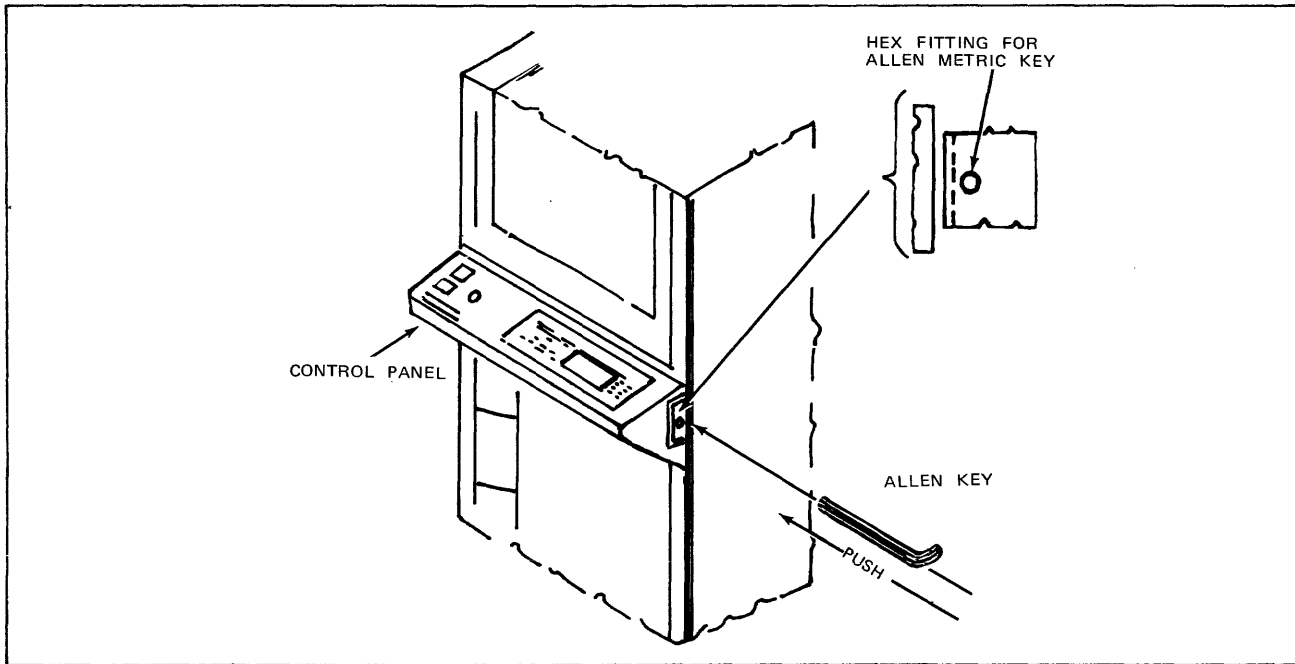

Figure 3-2. Opening Control Panel
2. Locate the release latch assembly on the right-hand side of the system control panel (see Figure 3-2).